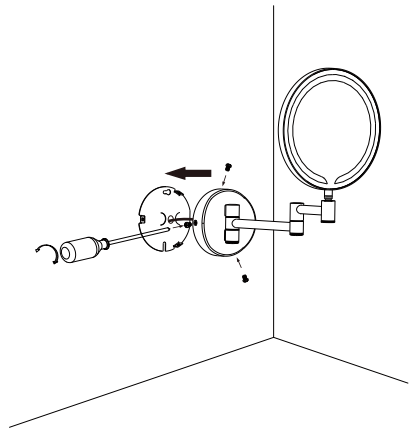

Fig.5
- 2.2 Covered the chassis and screw, see (Fig.5)